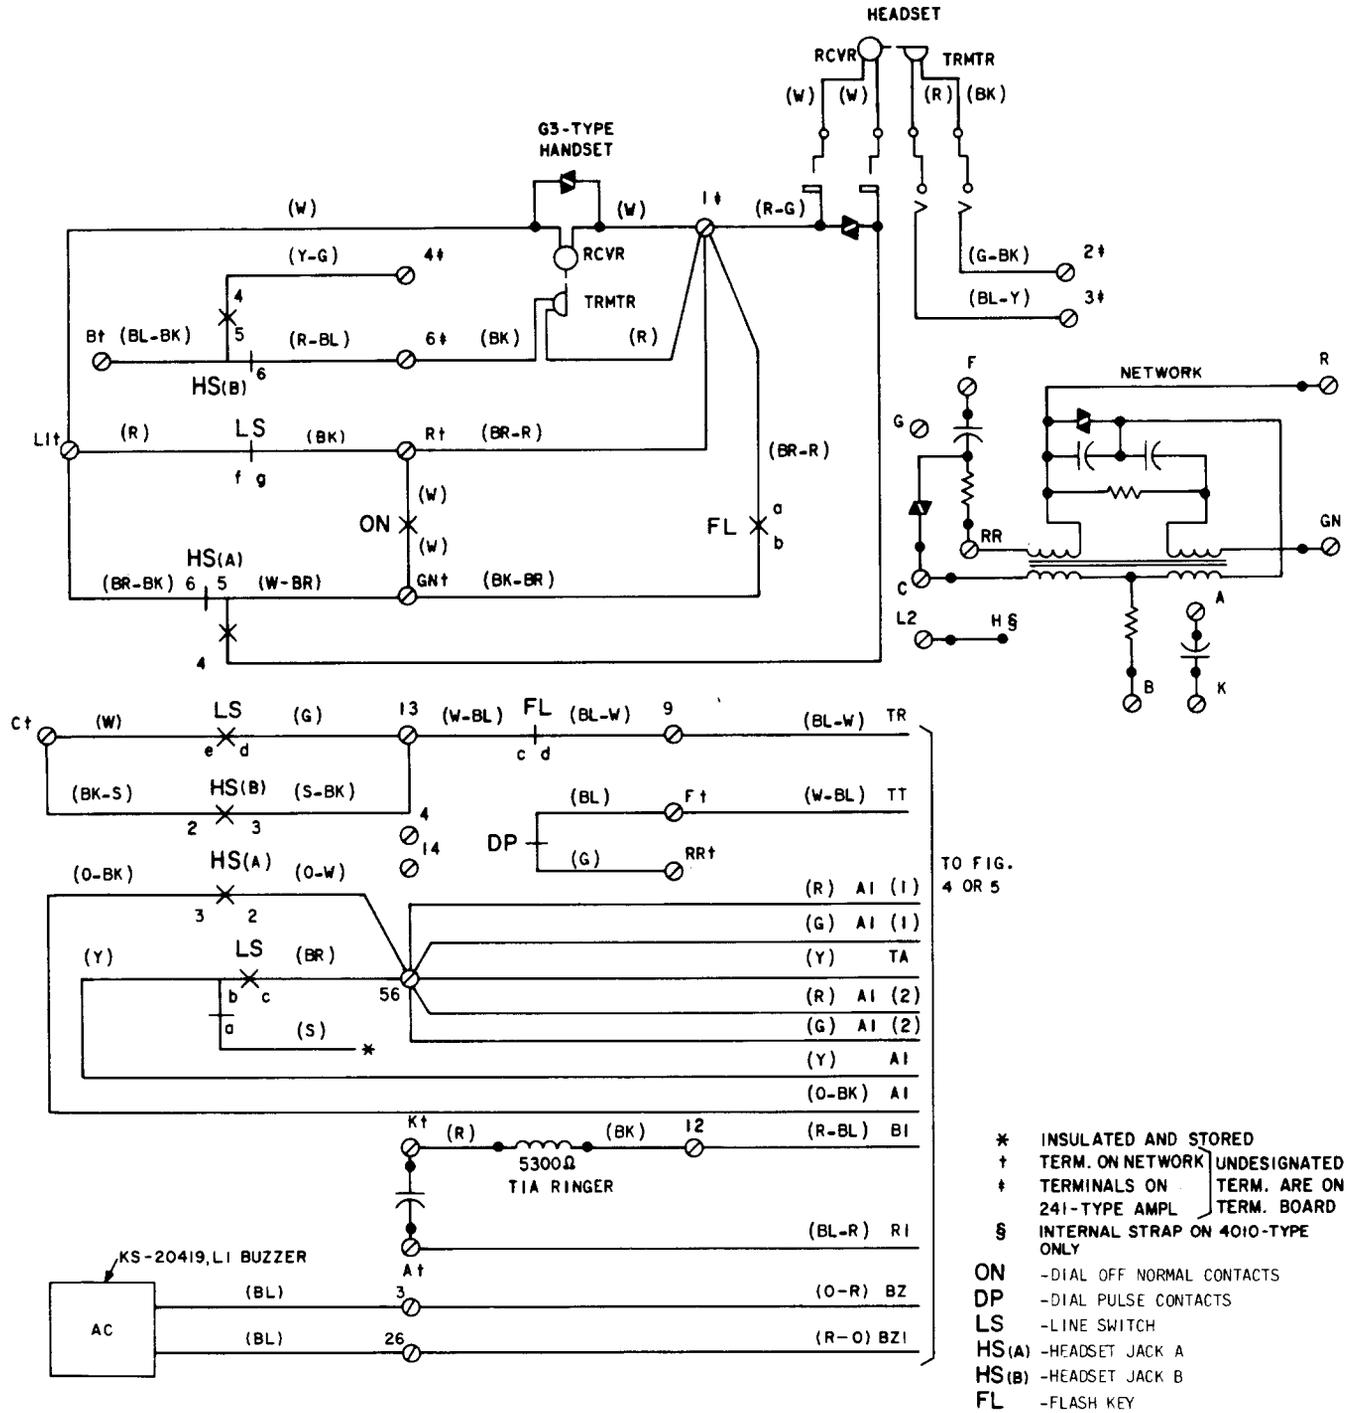

Fig. 1—638CA (MD) and 639DA (MD) Telephone Set, Connections
**1.01** This section contains information for 638CA (MD), 638CAM (MD), 638CAMS (18-button) and 639DA (MD), 639DAM (MD), 639DAMS (30-button) CALL DIRECTOR® telephone sets equipped with rotary dials, headset jacks, and used with station line concentrators (Fig. 1, 2, and 3).